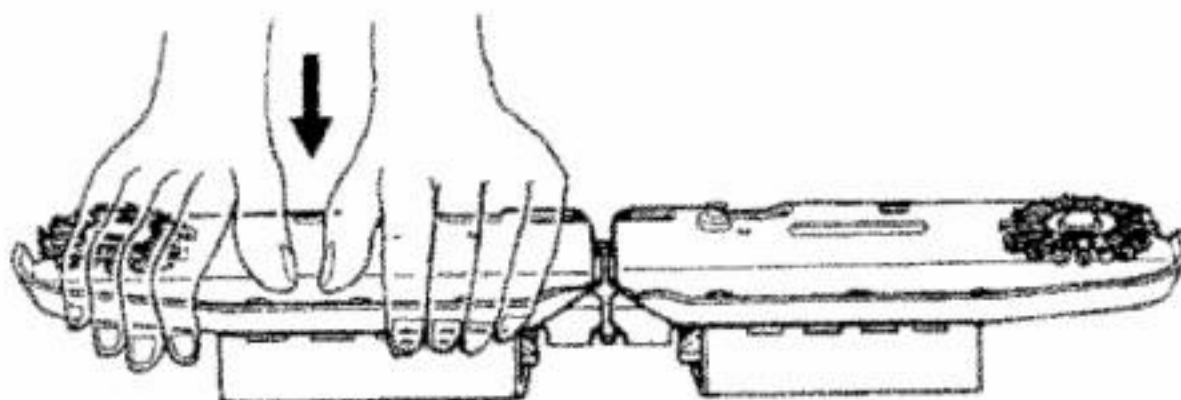

FIG.41
3. If the Fabric Presser is out of contact with the needles, remove Arm from the Carriage and place it upside down, then depress the presser gradually by hand as shown in Figure 41 to increase the presser angle.